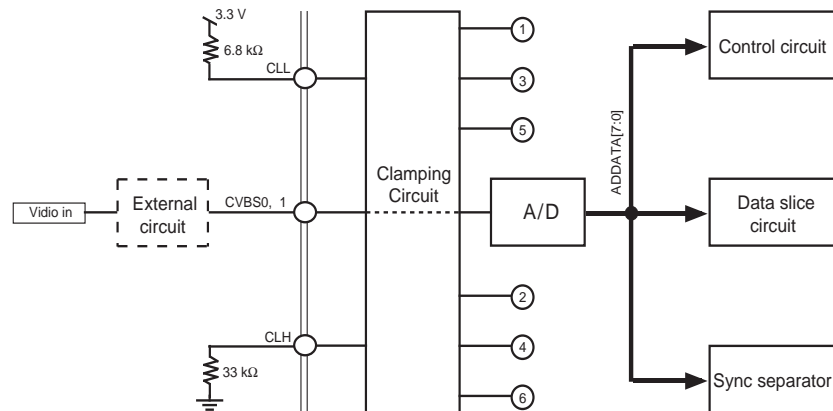

Figure 9-5 Clamping Circuit
2. The numbers (1) to (6) correspond to the same number in figure 9-5.